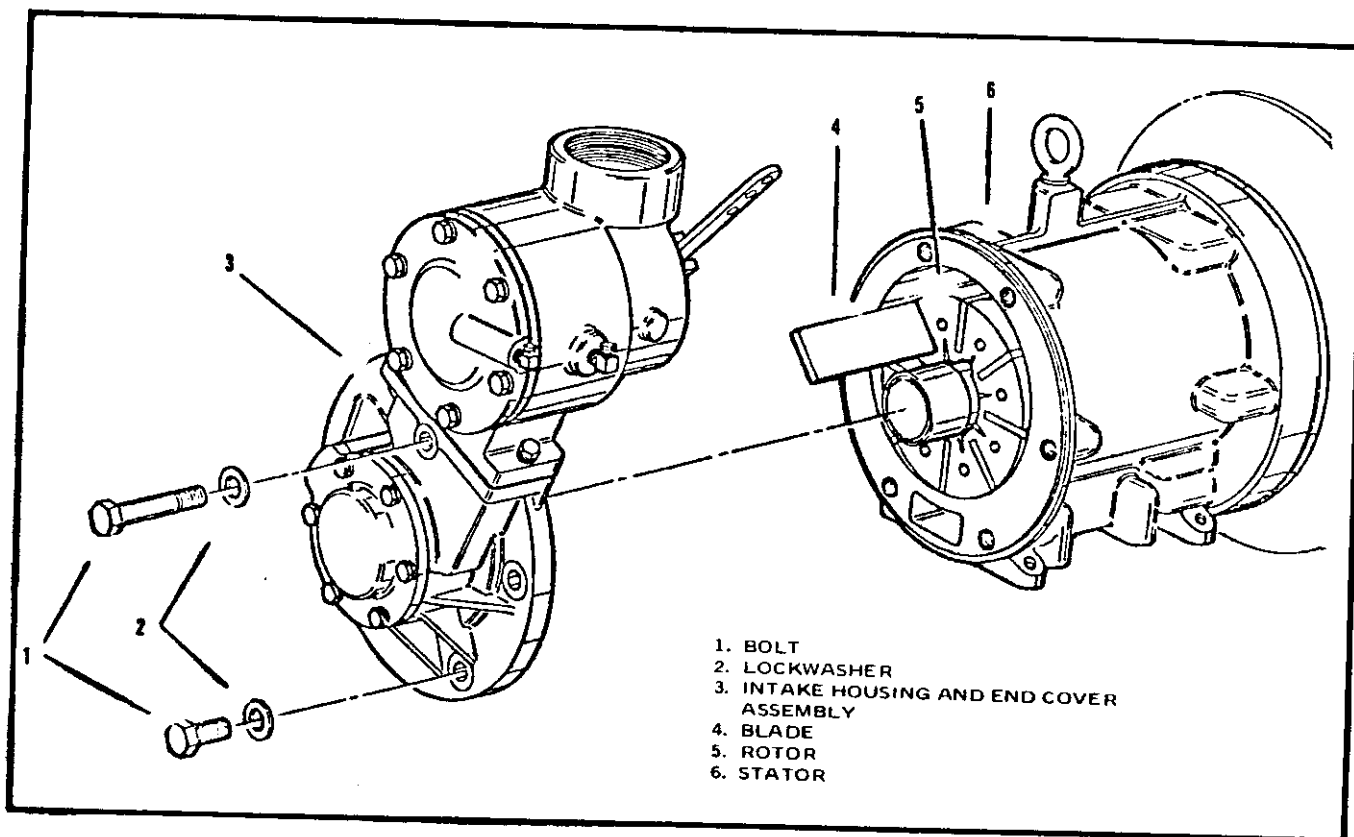

Figure 5-7. Air Compressor Exploded View
5-19. Air Compressor (Figure 5-7). To inspect the air compressor rotor blades, proceed as follows:
f. Disassemble compressor non-drive end in numerical sequence shown in Figure 5-7. Use a wire bent into a hook on one end to extract rotor blades from slots at top of rotor. To bring blades into position at top of rotor, rotate engine by repeatedly engaging starter.
i. Reassemble compressor non-drive end in reverse numerical sequence shown in Figure 5-7.